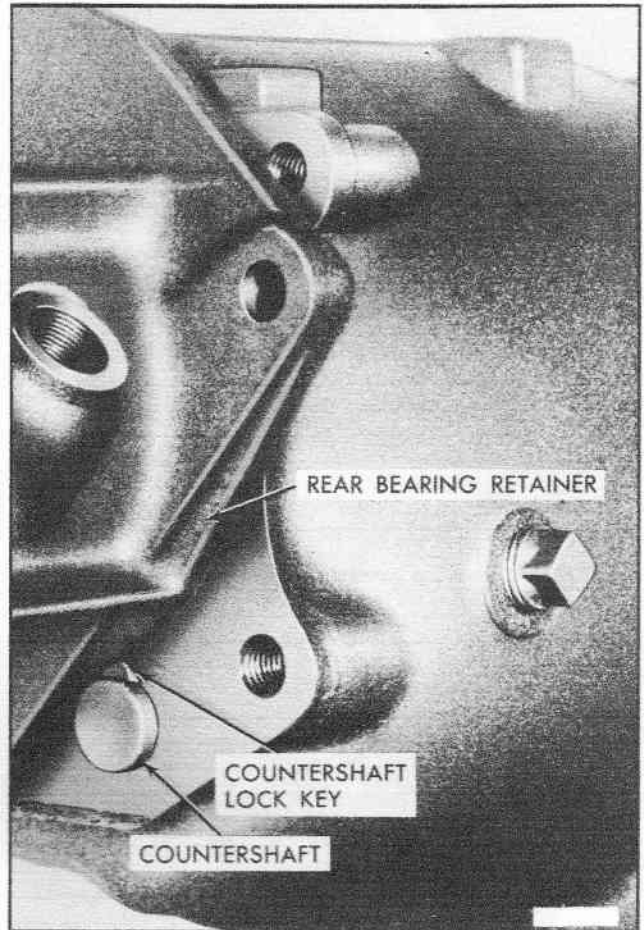

Fig. 8 Rear Bearing Retainer Rotated
8. Remove four hex head bolts securing mainshaft rear bearing retainer to case, move retainer away from case approximately one-half inch, then rotate retainer to expose countershaft and lock key. (Fig. 8)
9. From front of transmission case, drive countershaft to rear, using countershaft needle bearing loader tool J-5589. NOTE: When lock key in countershaft clears transmission case (Fig. 8), remove lock key to permit countershaft to clear rear bearing retainer.
11. Turn transmission over on repair stand to assist in aligning countershaft gear with shaft openings in case. Insert countershaft through opening in rear of case, making sure it passed through the two thrust washers before it enters the countershaft gear. Drive countershaft into gear, forcing tool J-5589 out opening in front of case. NOTE: It is necessary to rotate rear bearing retainer away from case approximately one half inch as shown in (Fig. 8) to uncover the countershaft bore.